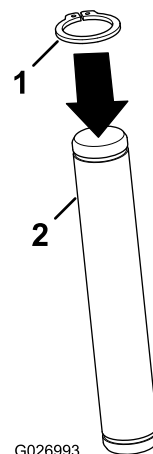

Figure 12
1. Install 2 snap rings (1-1/8 inch) onto the end of the 2 pins (1-1/4 x 7-5/8 inch) as shown in Figure 12.